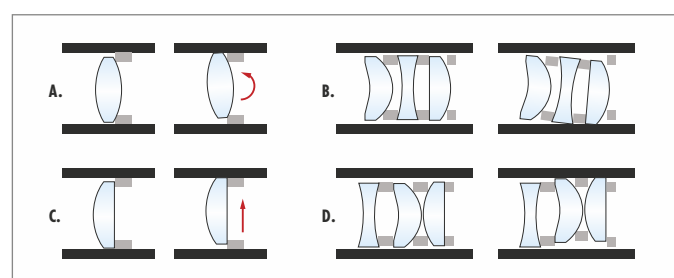

Figure 3: **A.** Roll motion of a lens element. **B.** Coupled roll motion. **C.** Decenter motion of a lens element. **D.** Coupled decenter motion.
- Elements with annuli or flat surfaces resting against a spacer can move independently (not coupled) from an initially decentered element (Figure 3).